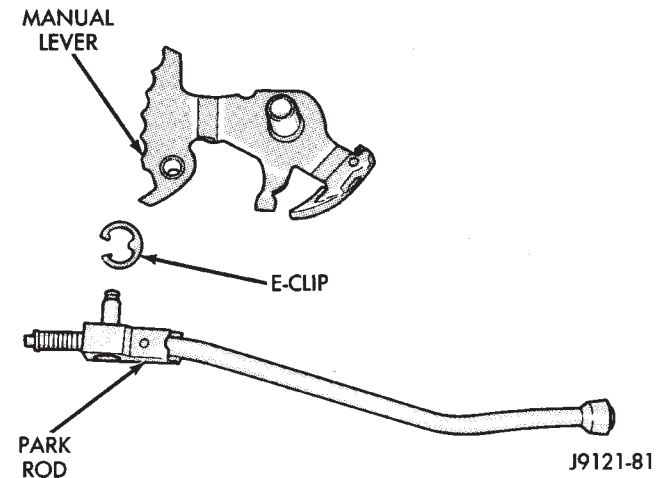

Fig. 48 Park Rod
(10) Remove park rod E-clip and separate rod from manual lever (Fig. 48).